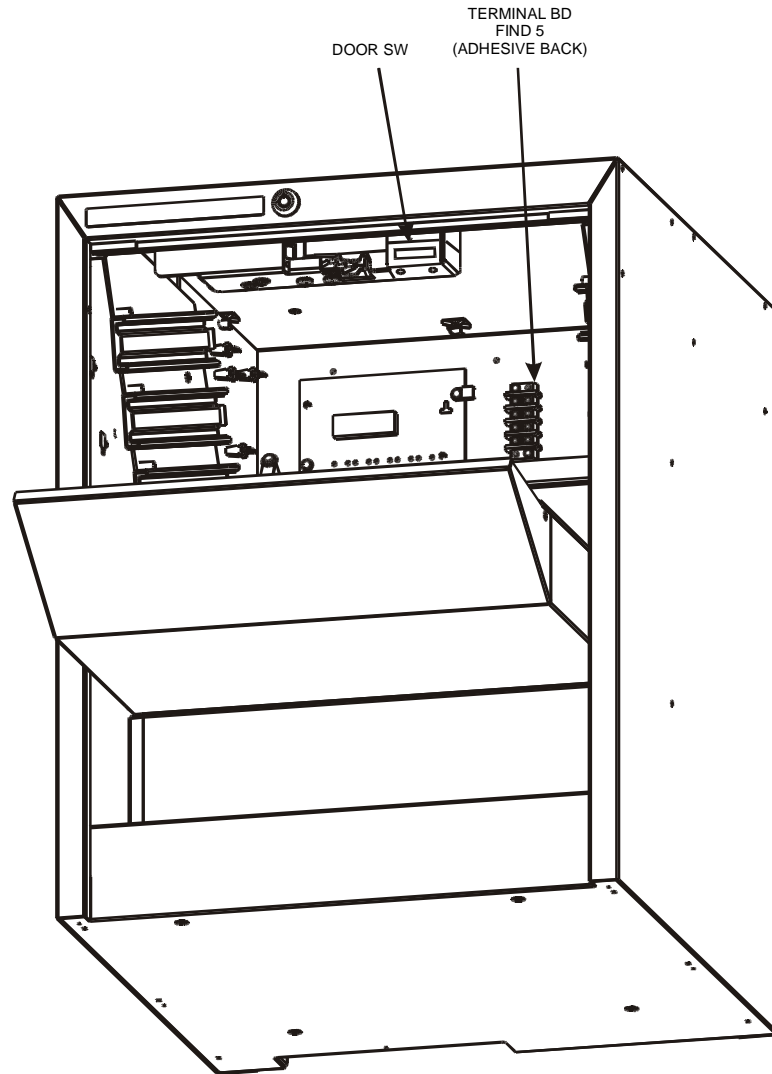

Figure 2-1 UDM 00-101463-000A Modification
6. Attach terminal board to back panel of cabinet using adhesive backing and tie wires against existing cabling along top panel with provided cable ties (FIND 13). The approximate location of the terminal board is shown in Figure 2-1. Arrange the terminal board and cable as necessary to prevent the cable from hanging or drooping.